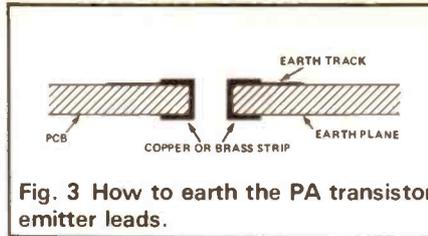

Fig. 3 How to earth the PA transistor emitter leads.
1. Fit and solder the through board links around the emitter leads. Form two pieces of brass strip around the PCB inside the transistor hole to connect the emitter leads of Q1 to earth see Fig. 3. Solder these to the PCB making certain that they are not likely to raise the emitter leads.